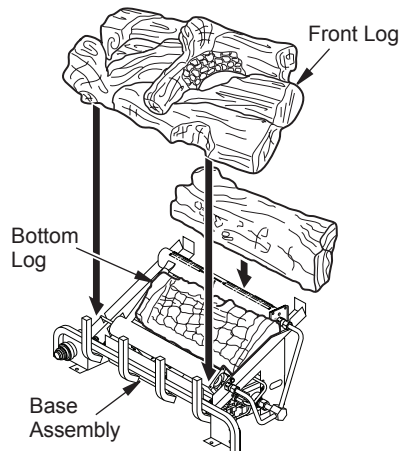

Figure 23 - Installing Log Set
1. Place bottom log in center of the base assembly as shown in Figure 23.
2. Rest rear log in back corner sections of base assembly as shown in Figure 23. Make sure log is completely vertical and not leaning in toward burner where the flame will touch the log.
3. Position front log as shown in Figure 23, making sure the grooves in the bottom of the log fit over the grate prongs.